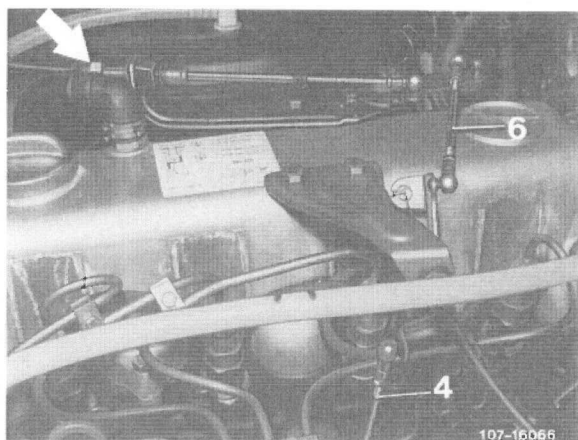

Fig. 195
2 Unhook both regulating rods (4 and 6). (Fig. 195).
4 Adjust push rod (4 and 6) to specified length measured from center to center of ball socket and join (Fig. 195).
5 Check full throttle stop. With the engine stopped, step down on accelerator pedal from inside vehicle to full throttle stop or with automatic transmission down to stop on kickdown switch. Accelerator pedal and regulating lever (1) should rest against full throttle stop (2). If required, adjust by means of adjusting screw (arrow) bowden wire in such a manner that the regulating lever (1) rests against full throttle stop (2) (fig. 195 and 196).